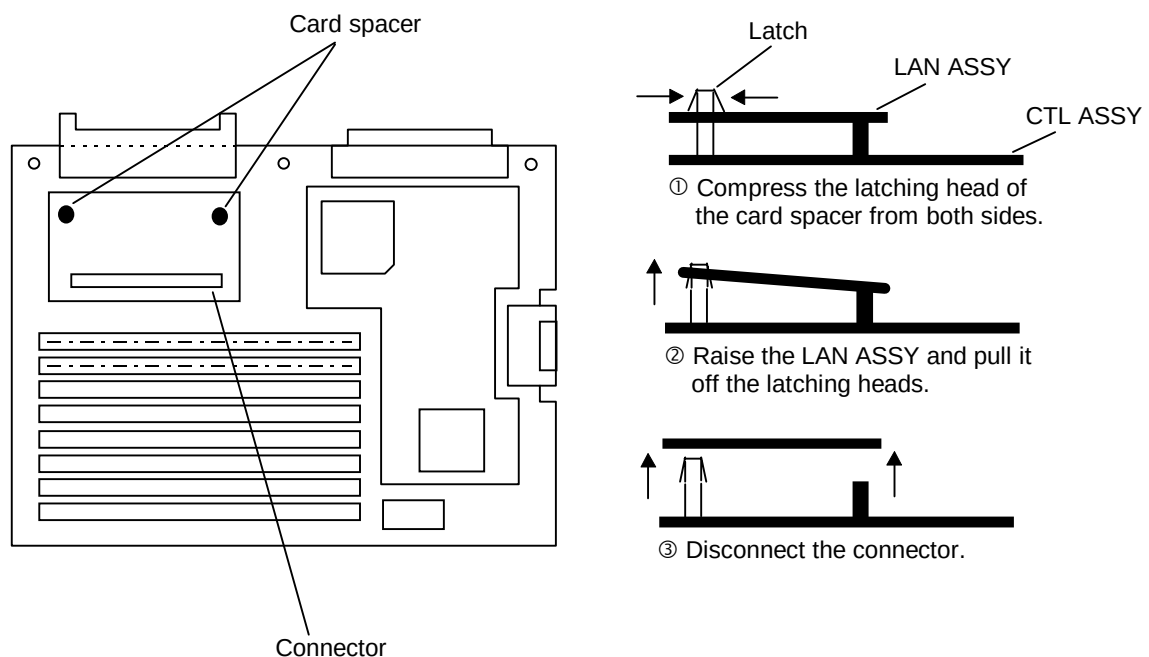

Figure 14.1 Replacing LAN ASSY (1)
② Open the rear cover and remove CTL ASSY. (See RW-REP0325.)
③ Pinch the latching heads of card spacers with needle-nose pliers etc. , then pull the LAN ASSY up with care not to touch with surrounding parts. (See Figure 14.1.)